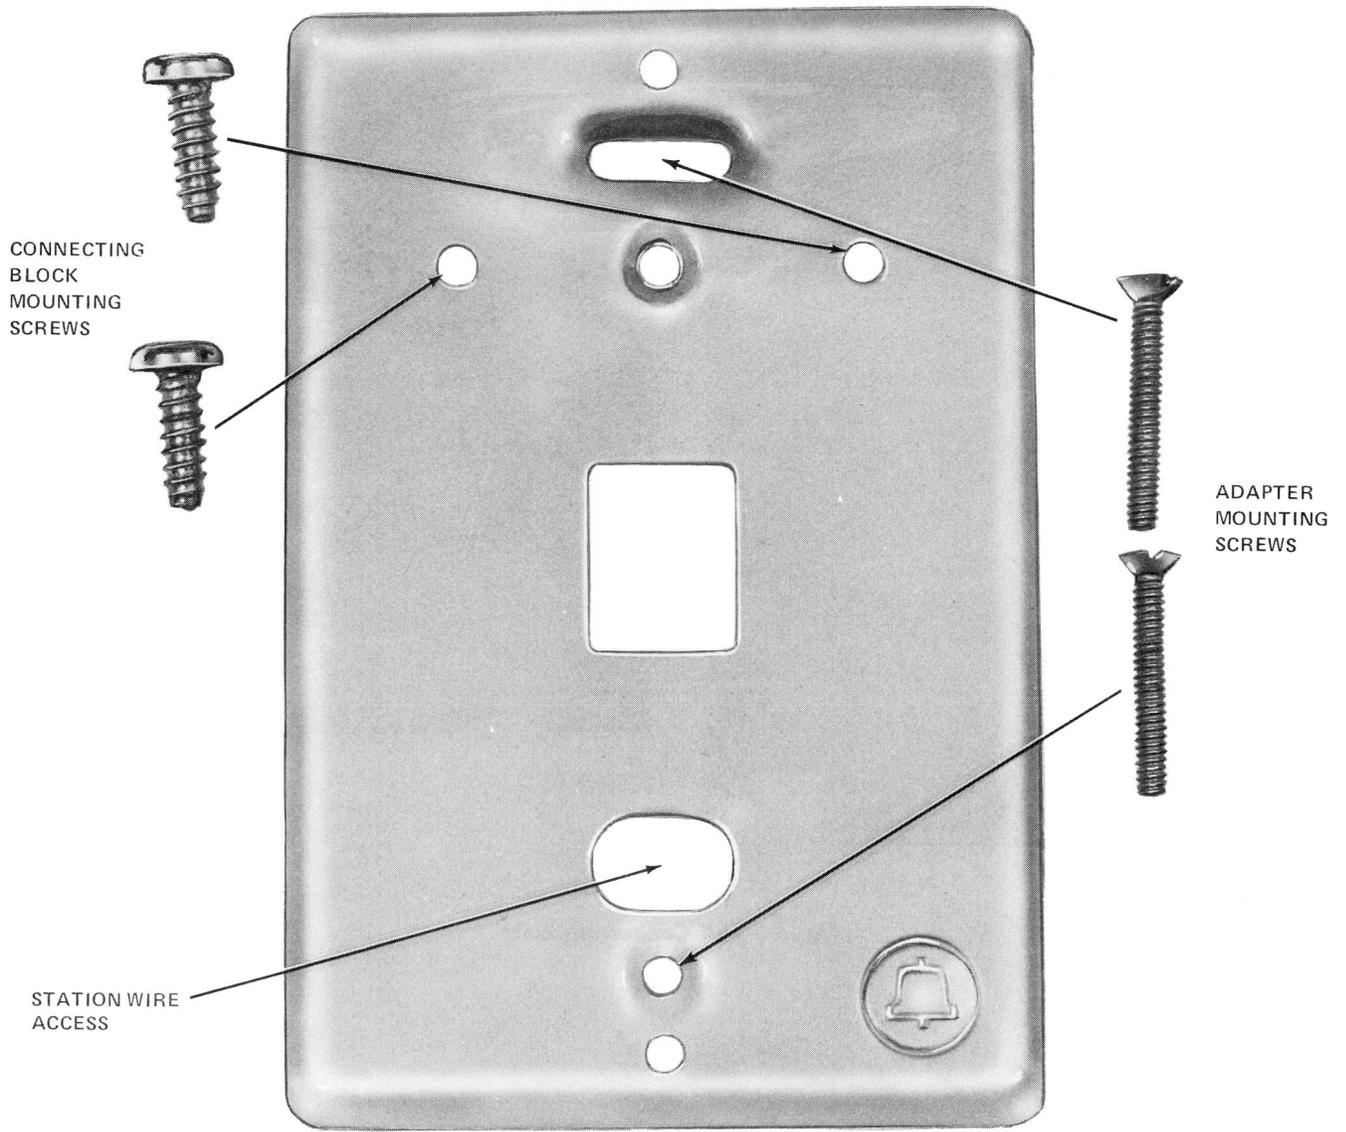

Fig. 3—275A Adapter
2.03 The 275A adapter (Fig. 3) is used for mounting the 86A to a standard wall outlet box.